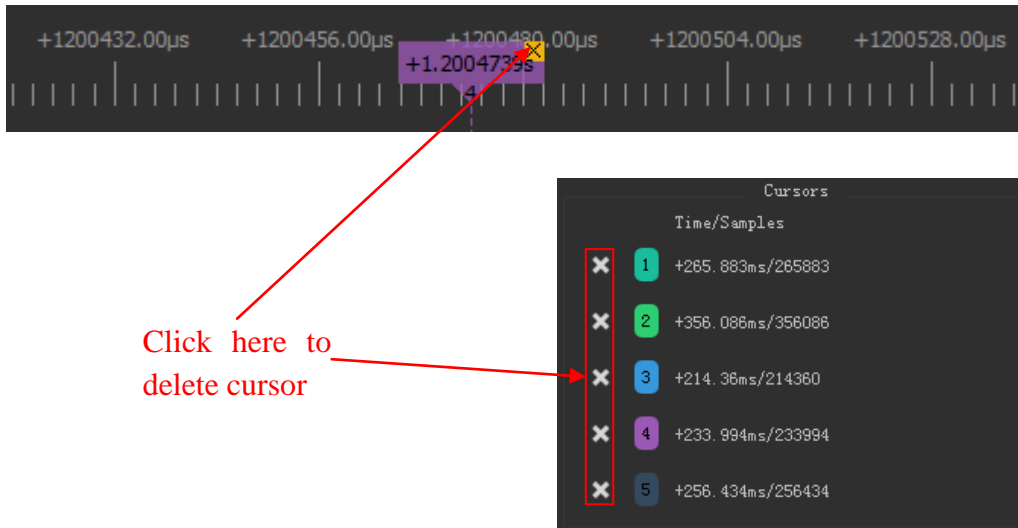

Figure 3-25
**Cursor Delete:** As Figure 3-25 shows, click the ‘×’ area of any cursor will delete the cursor, and remain cursors will be renumbered.